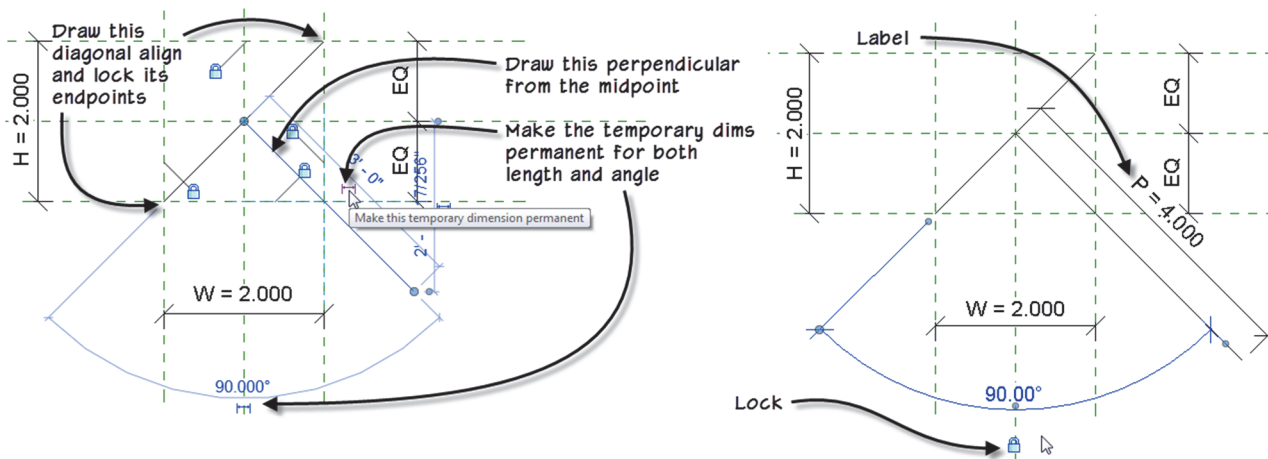

FIGURE 4.34
- ⇒ Select the line and then click the small "Make this temporary dimension permanent" icon for both the length and angle dimensions (see the left side of Figure 4.34).
- ⇒ Lock the angle dimension (see the right side of Figure 4.34).